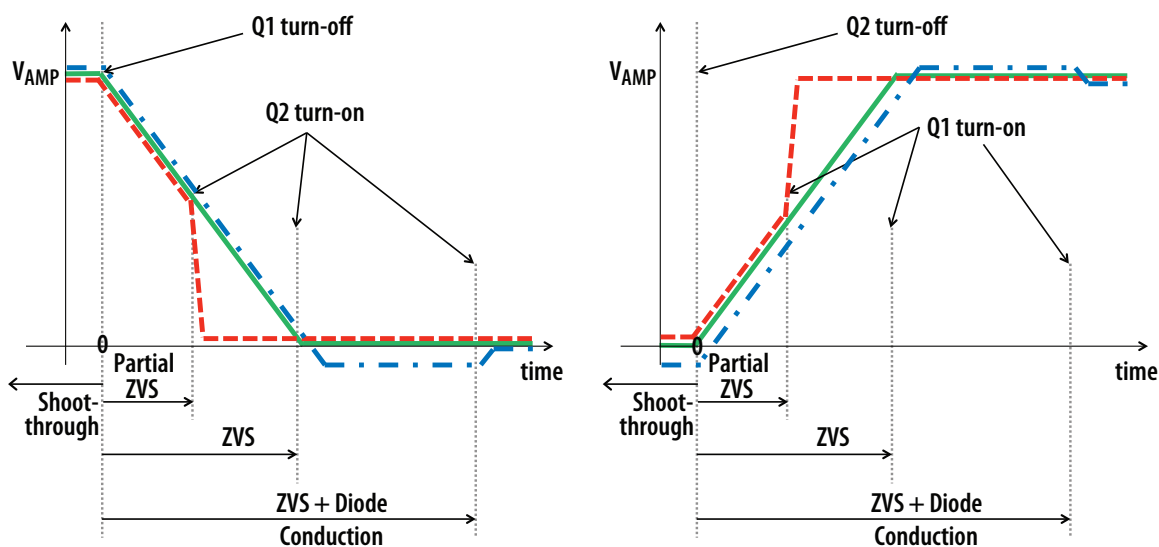

Figure 4: ZVS Timing Diagrams
Setting the correct time to establish ZVS transitions is critical to achieving high efficiency with the EPC9506 amplifier. This can be done by selecting the values for R71, R72, R77, and R78 respectively. This procedure is best performed using potentiometers P71, P72, P77, and P78 installed that is used to determine the fixed resistor values. The procedure is the same for both single ended and differential mode of operation (as applicable per operating mode). The timing MUST initially be set WITHOUT the source coil connected to the amplifier. The timing diagrams are given in Figure 4
6. While observing the oscilloscope adjust P71 or P77 for the rising edge of the waveform so achieve the green waveform of figure 4. Repeat for the falling edge of the waveform by adjusting P72 or P78.